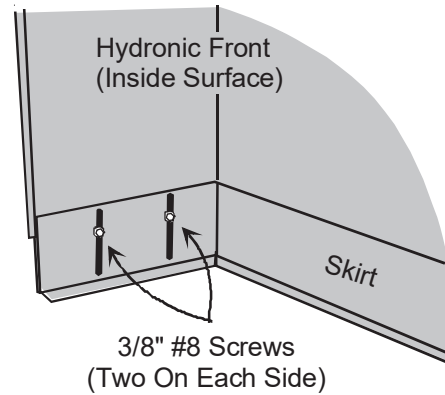

Figure 9
8. Mount the skirt to the metal front with the four remaining 3/8" #8 supplied screws (Figure 9).